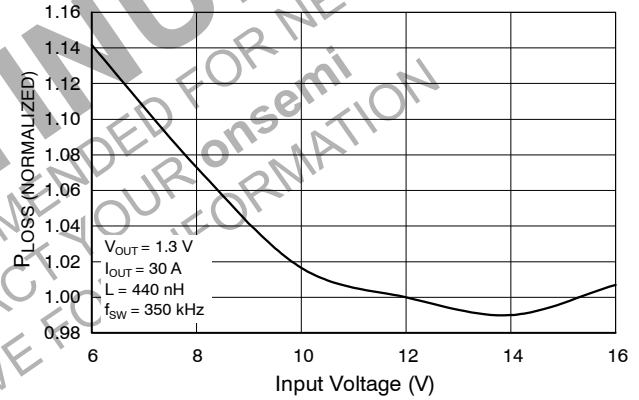

Figure 10. Power Loss vs. Input Voltage
2. May be operated at lower input voltage. See Figure 10.